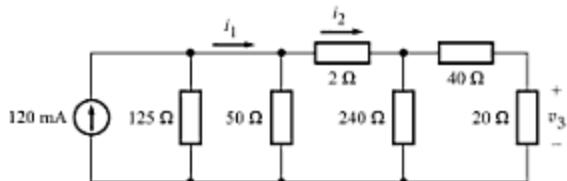

Fig. A-86
- A-48. In the circuit of Fig. A-86, find  $i_1$ ,  $i_2$  and  $v_3$  using resistance combination method and current division.